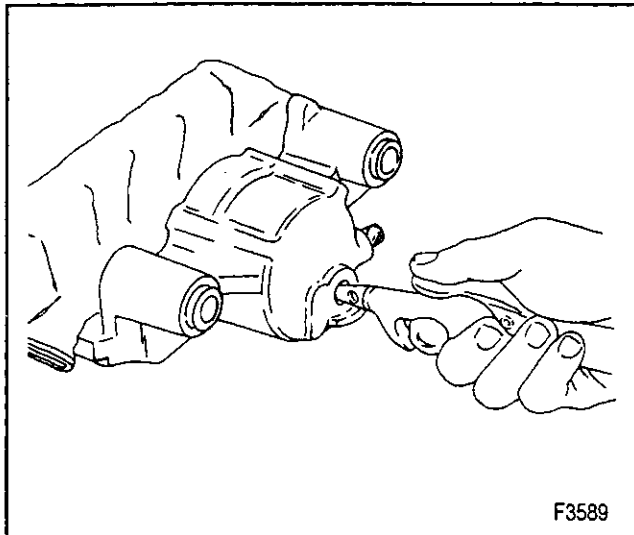

Figure 25—Removing the Piston
3. Piston (9).
- Direct compressed air into caliper fluid inlet (figure 25).